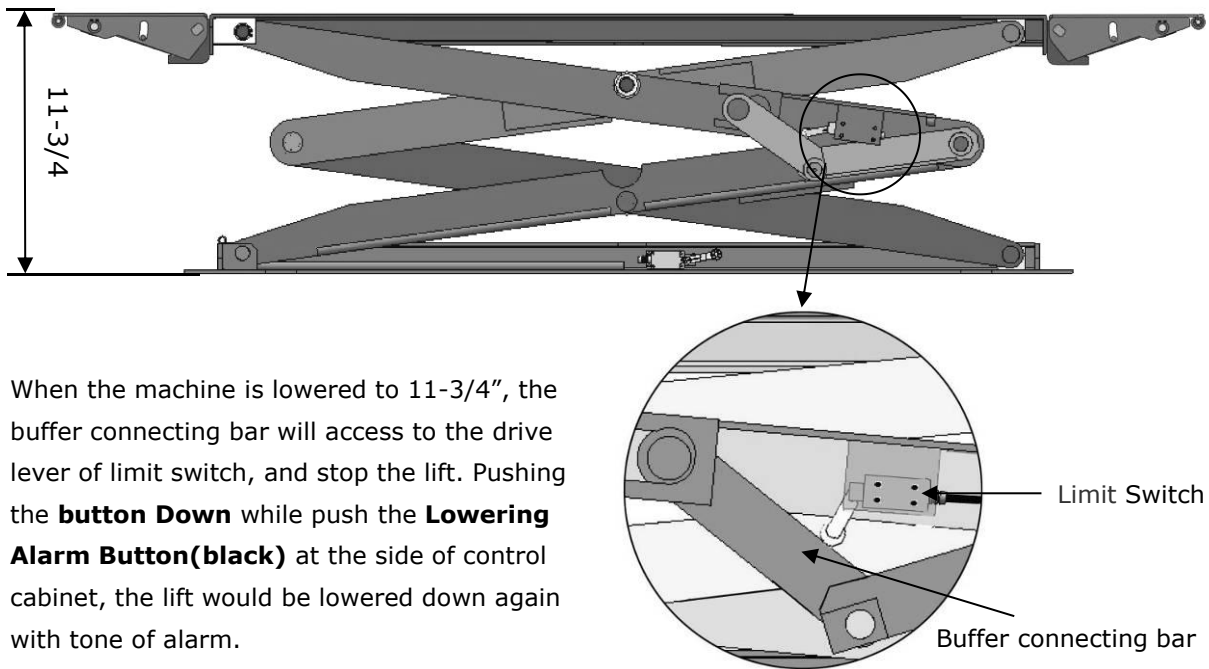

Fig. 15
2.2 Lower alarm device instruction (See Fig.15)